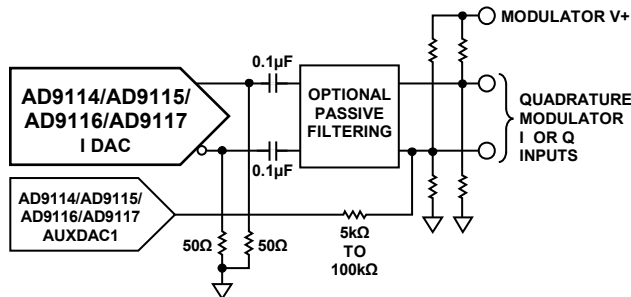
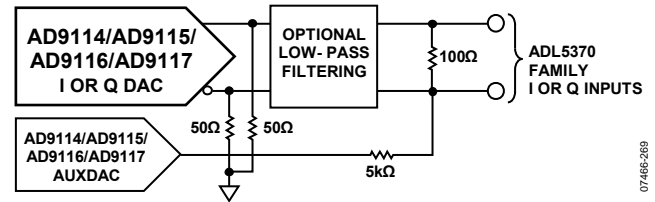

Figure 107. Typical Use of Auxiliary DACs
Figure 108. Typical Use of Auxiliary DACs When DC Coupling to Quadrature Modulator ADL537x Family
The auxiliary DACs can be used for local oscillator (LO) cancellation when the DAC output is followed by a quadrature modulator. This LO feedthrough is caused by the input referred dc offset voltage of the quadrature modulator (and the DAC output offset voltage mismatch) and can degrade system performance. Typical DAC-to-quadrature modulator interfaces are shown in Figure 107 and Figure 108, with the series resistor value chosen to give an appropriate adjustment range. Figure 107 also shows external load resistors in use. Often, the input common-mode voltage for the modulator is much higher than the output compliance range of the DAC, so that ac coupling or a dc level shift is necessary. If the required common-mode input voltage on the quadrature modulator matches that of the DAC, the dc blocking capacitors in Figure 107 can be removed and the on-chip resistors can be connected.
Figure 108 shows a greatly simplified circuit that takes full advantage of the internal components supplied in the DAC. A low-pass or band-pass passive filter is recommended when spurious signals from the DAC (distortion and DAC images) at the quadrature modulator inputs can affect the system performance. In the example shown in Figure 108, the filter must be able to pass dc to properly bias the modulator. Placing the filter at the location shown in Figure 107 and Figure 108 allows easy design of the filter, because the source and load impedances can easily be designed close to 50  $\Omega$  for a 20 mA full-scale output. When the resistance at the modulator inputs is known, an optimum value for the series resistor can be calculated from the modulator input offset voltage ratings.